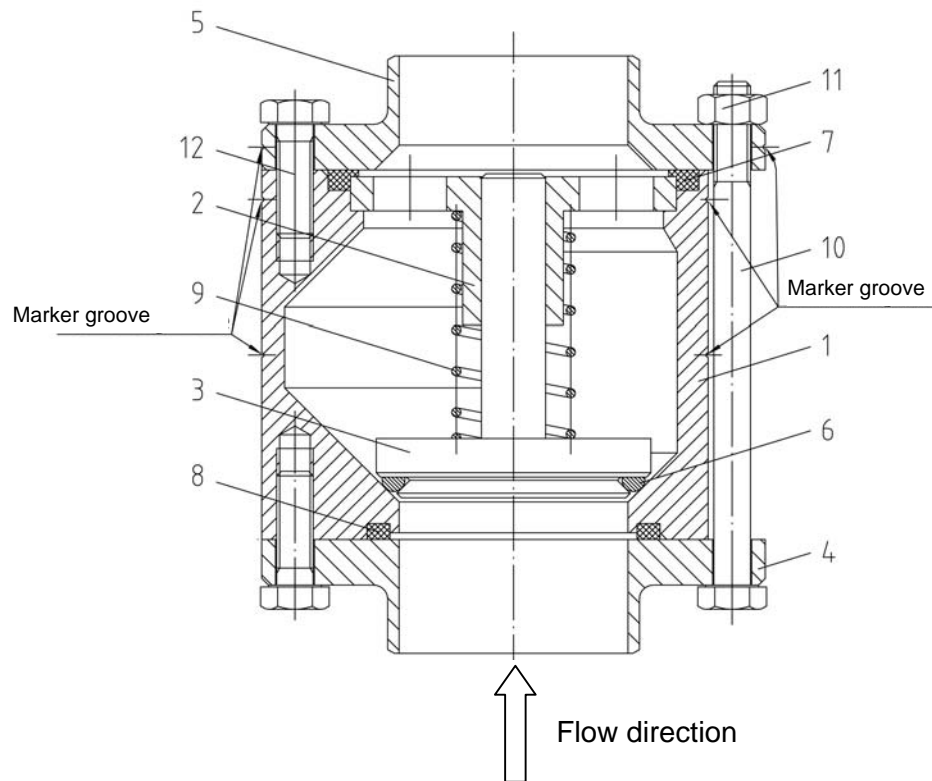

Fig. 1 Sectional view of non-return valve DIN ZF (dimensions see chapter 10.1)
The non return valve is a spring loaded valve that prevents return flow of liquid or gaseous media in a system or a line. The installation position can be selected freely. Only the flow direction must be taken into consideration (see Fig.1). The valve cone (3) inserted into the valve housing (1) is pressed against the gasket surface of the housing by means of a pressure spring (9). The spring is propped up against the guide disc (2). Coming from the valve cone (3), the product can flow towards the guide disc (2). A certain pressure in the supplying pipeline is required to open the valve which must overcome the opposing spring power of the valve cone (3). This start-to-leak pressure is very low. All nominal widths result in a value of $p \leq 0.2$ bar.
- But pay attention to the flow direction (see Fig.1). The flow direction is additionally marked on the valve housing by means of an arrow.
- Pull out the valve housing (1) between the inlet flange (4) and the outlet flange (5).
- Remove the O-ring (6) from the valve cone (3).